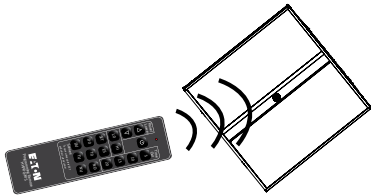

Figure 1. Programming Angle
The Programming Remote uses infrared (IR) technology to communicate with the Integrated Sensor. The remote operates within line-of-sight angles to the luminaire (Figure 1) within 10 to 20 feet. More than one Integrated Sensor can be within range of the programming remote, allowing